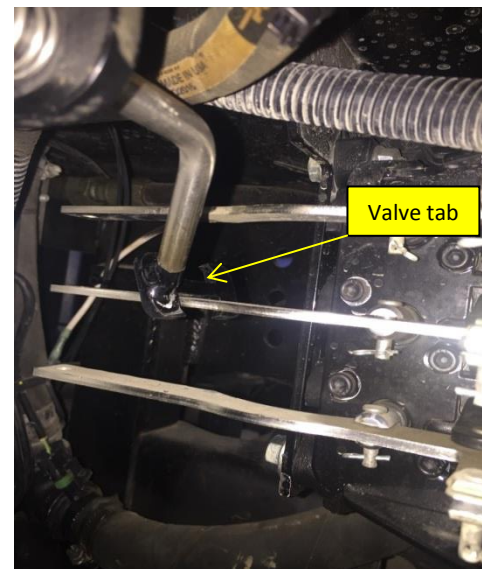

Figure 4
6. Depress the top valve handle so that it will give enough clearance to allow the valve tab to be placed between the valve handles (2 spool valve) or the top and middle handles (3 spool valve), 3 spool valve shown. **Figure 4**